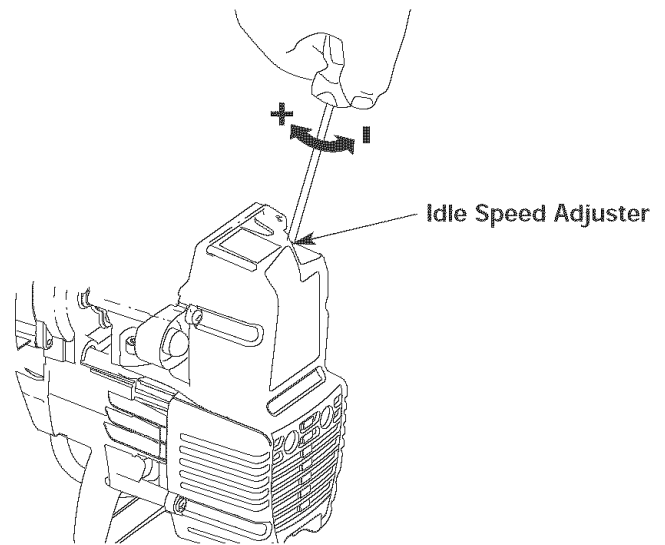

Fig. 18
The engine's idle speed adjuster is adjustable through the air filter/muffler cover (Fig 18).
- Release the throttle control and let the engine idle. If the engine stops, insert a small phillips or flat blade screwdriver into the hole in the muffler cover (Fig. 18). Turn the idle speed screw **clockwise** 1/8 of a turn at a time (as needed) until the engine idles smoothly.